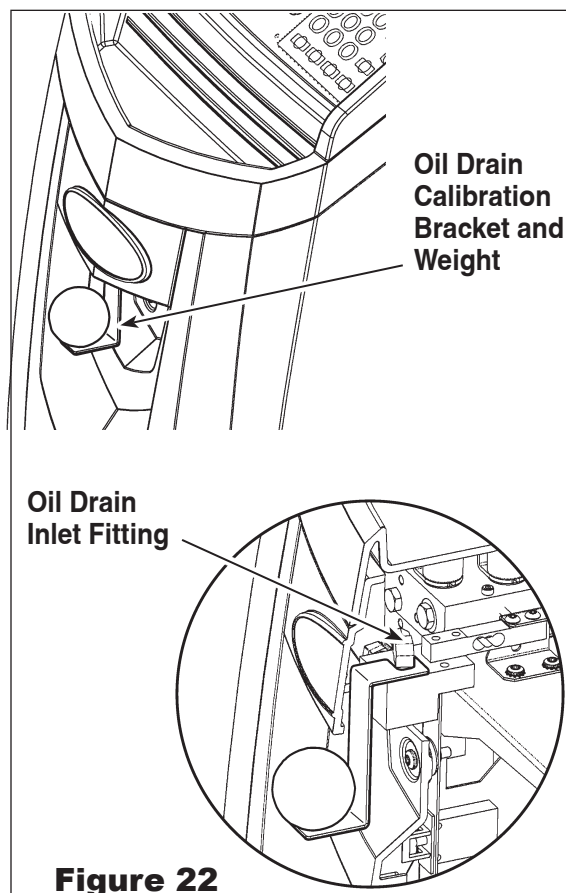

Figure 22
2. Hook the notch in the end of the oil drain calibration bracket (supplied) around the oil drain inlet fitting as shown in Figure 22.